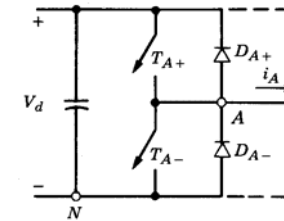

Fig. 4
- (40) 1.1 Describe a system to control the output current i_A of the inverter leg in Fig. 4. Give a block diagram of the system and sketch the voltage v_{AN} , i_A and the on/off signals for the switches.